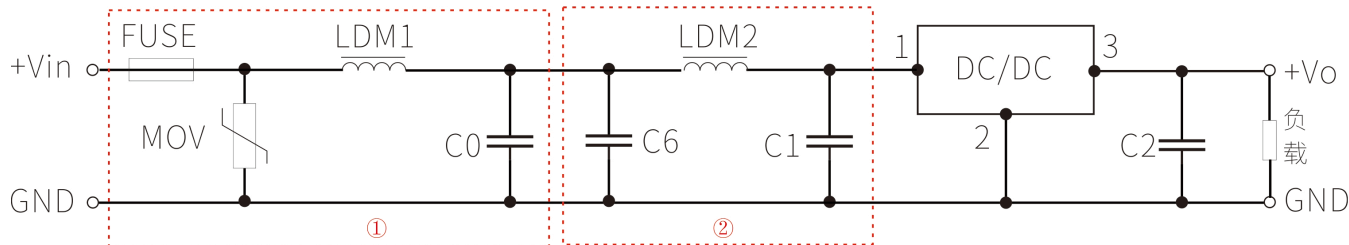

Fig 4: FMC Recommended Application Circuit
Note: Part ① in Figure 4 is used for EMS testing; Part ② is used for EMI testing. The appropriate recommended circuit can be selected according to requirements.